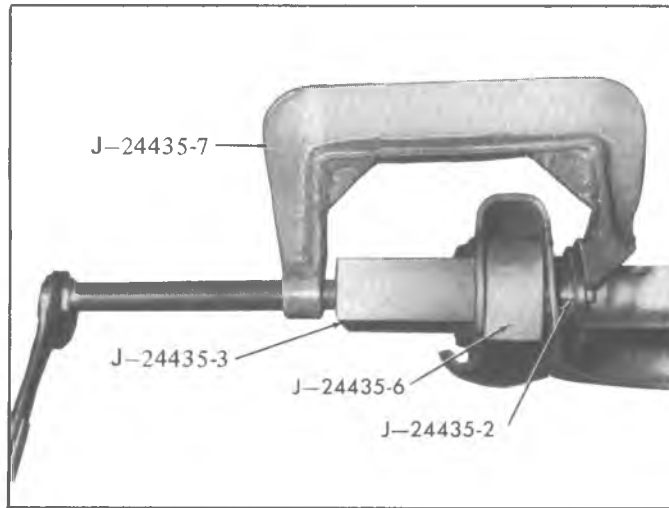

Fig. 33B—Lower Control Arm Rubber Bushing Removal
8. Bushings may now be replaced. Install "C" clamps J-24435-7 and receiver J-24435-3 with remover J-24435-2 and spacer J-24435-6 as shown in figure 33B.